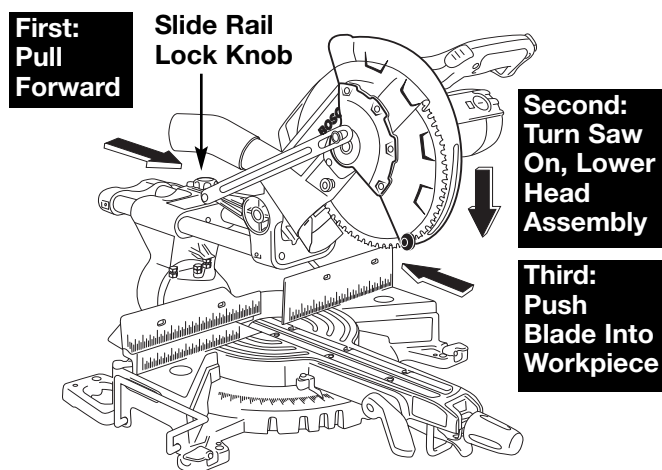

Figure 27. Slide Cut
2. Loosen the slide rail lock knob (figure 27).
3. Grasp the switch handle and pull the head assembly away from the fence, until the blade clears the workpiece or to its maximum extension if blade cannot clear the workpiece (Figure 27).